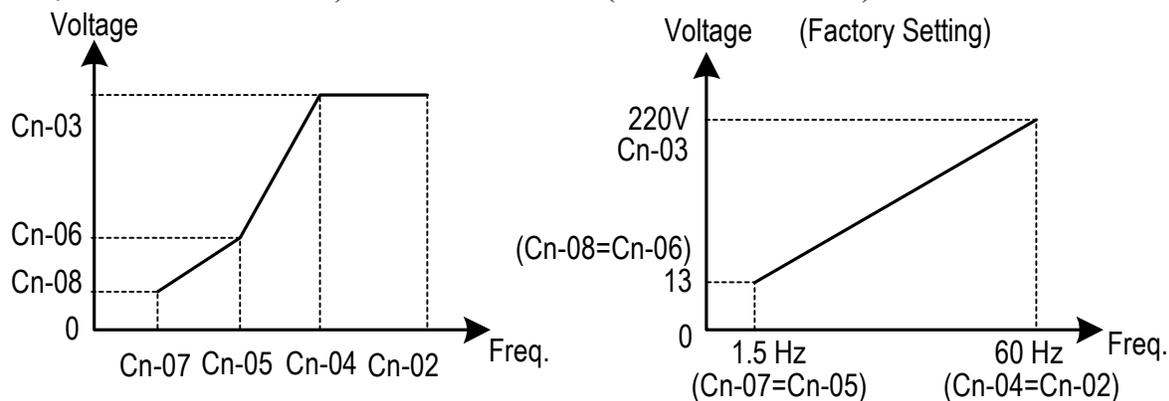

Fig. 17. User-defined V/F curve
(1) Input Voltage Setting (Cn-01)
(2) V/F Curve Parameter Settings (Cn-02 ~ Cn-08)
- Setting Cn-02~Cn-08 can be set by the user when Sn-02 has been set to “15”. The user-defined V/F curve can be specified through the settings of Cn-02~Cn-08 as shown in Fig. 17. The factory setting is straight line for the V/F curve. (Cn-05=Cn-07, Cn-06 is not used) as shown below (230V/60Hz case).
(5) Motor Rated Slip (Cn-11)
- This setting is used as a reference value for torque compensation function. See Fig. 17. The setting is 0.0~9.9% as a percentage of motor Max. voltage frequency (Cn-04) as 100%.